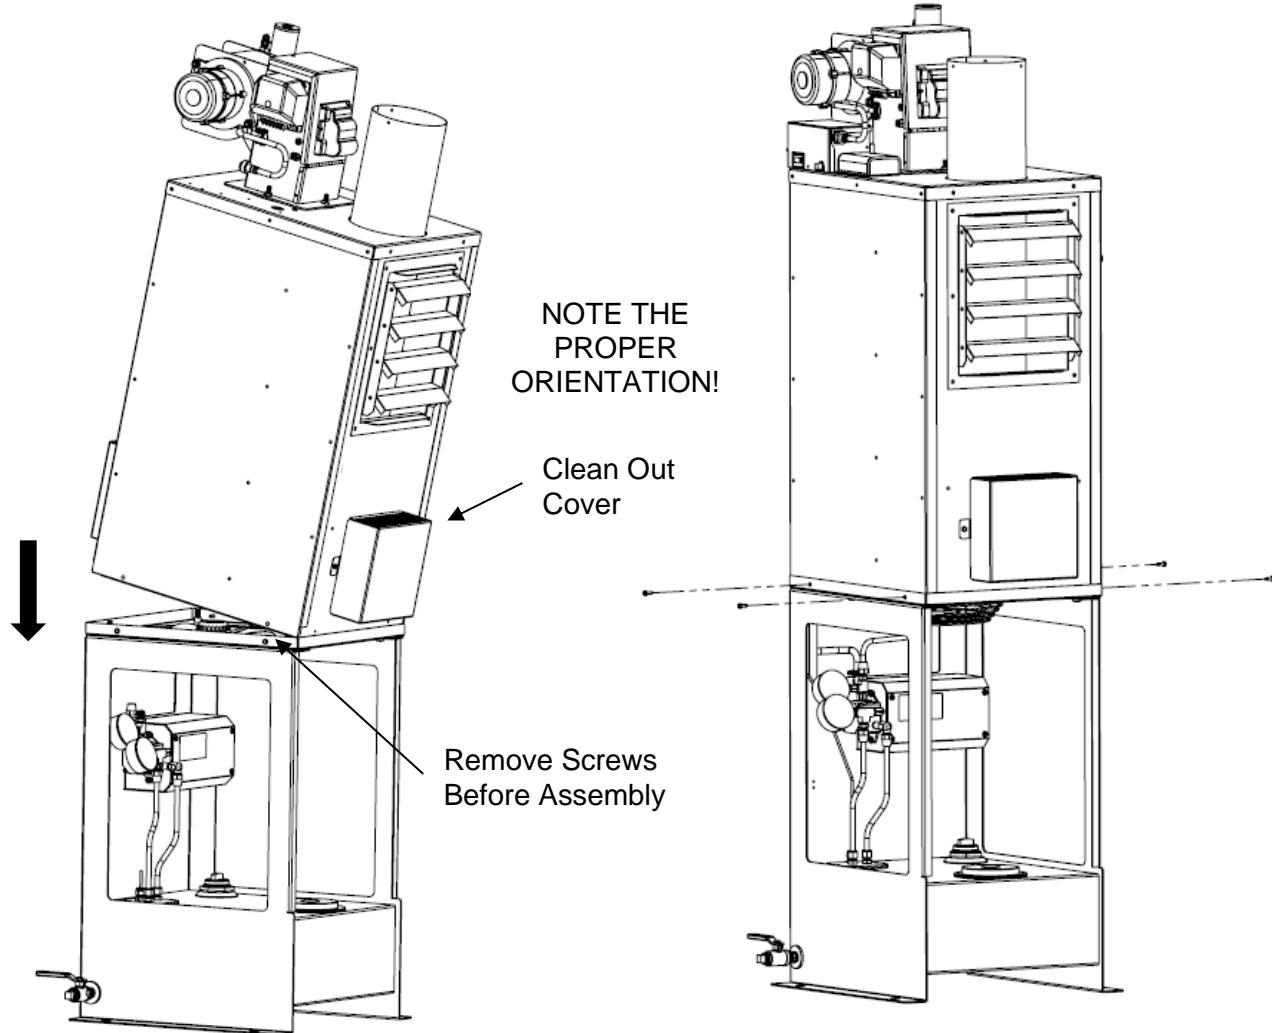

Figure 2.2 – Assemble the Sections
3. Remove the four  $\frac{1}{4}$ -20 screws from the bottom sides of the cabinet using a 7/16" nut driver or wrench. Set them aside for use later. (Refer to Figure 2.2 below.)